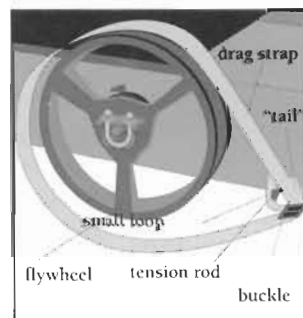

Figure 13
6. Slide the small loop of the drag strap around the tension rod. Be sure that the "tail" of the strap is toward the ceiling and that the tension rod bends upward (Figure 13).